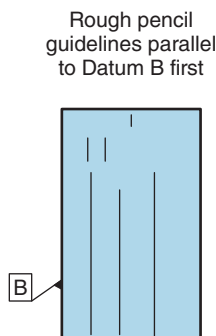

Figure 8-31 All pencil guidelines parallel to Datum B.
1. *Pencil lines parallel to Datum B* (Fig. 8-31). Using a ruler, draw light pencil lines parallel to Datum B first. These will be used to guide the scribe lines parallel to Datum A.